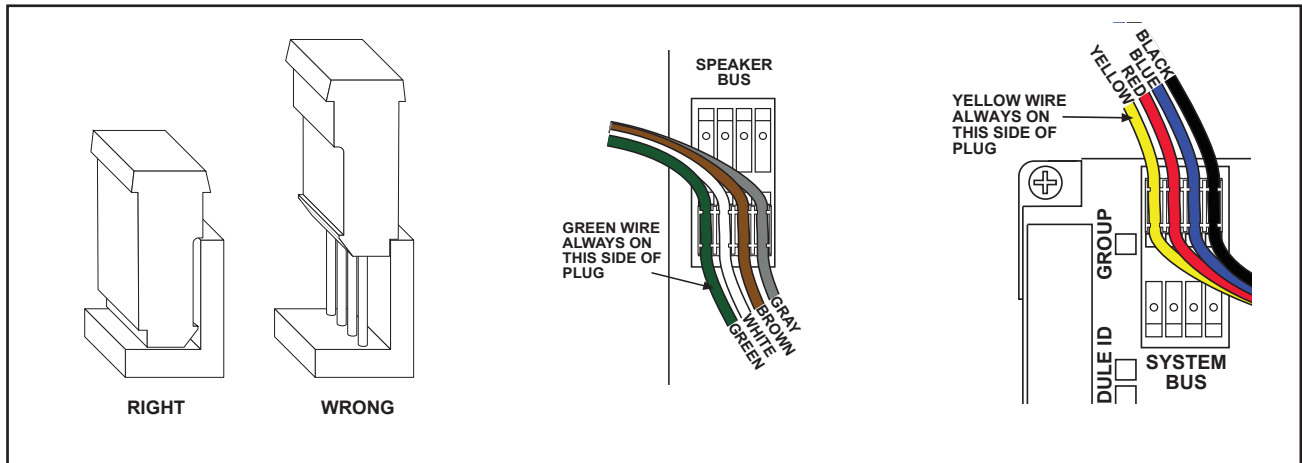

Figure 39. Observe correct polarity for all bus connections.
5. Make sure the system bus and speaker bus have solid connections, with the correct polarity (Figure 39). When your system is powered up from the power supply, all the main modules should be blinking, with a “heartbeat.” If one or more modules do not show the blinking LED, check the System Bus connections.